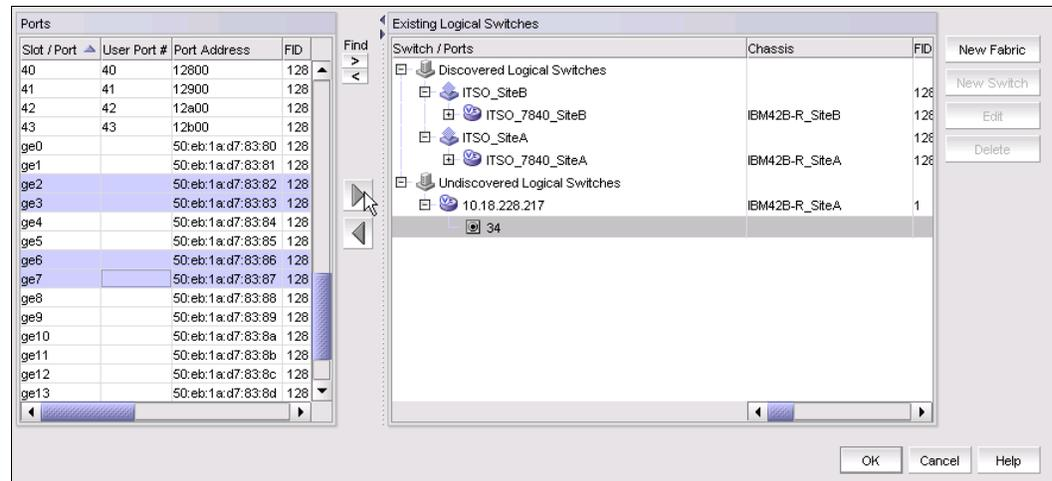

Figure 6-7 Select ports for the base logical switch
7. Click **OK**. The new logical switch is displayed in the **Existing Logical Switches** list (Figure 6-7).